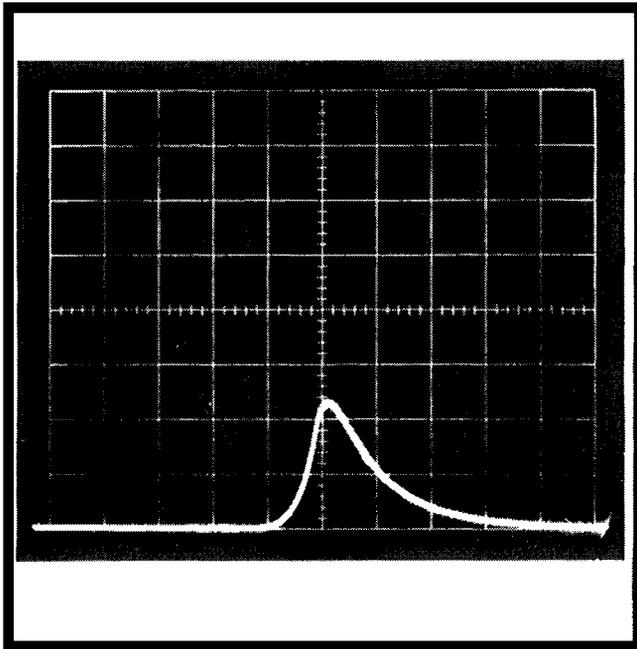

Fig. 6-36. Typical Video Filter integrated display of 200 MHz RF
- d. Check—The display should resemble Fig. 6-36.